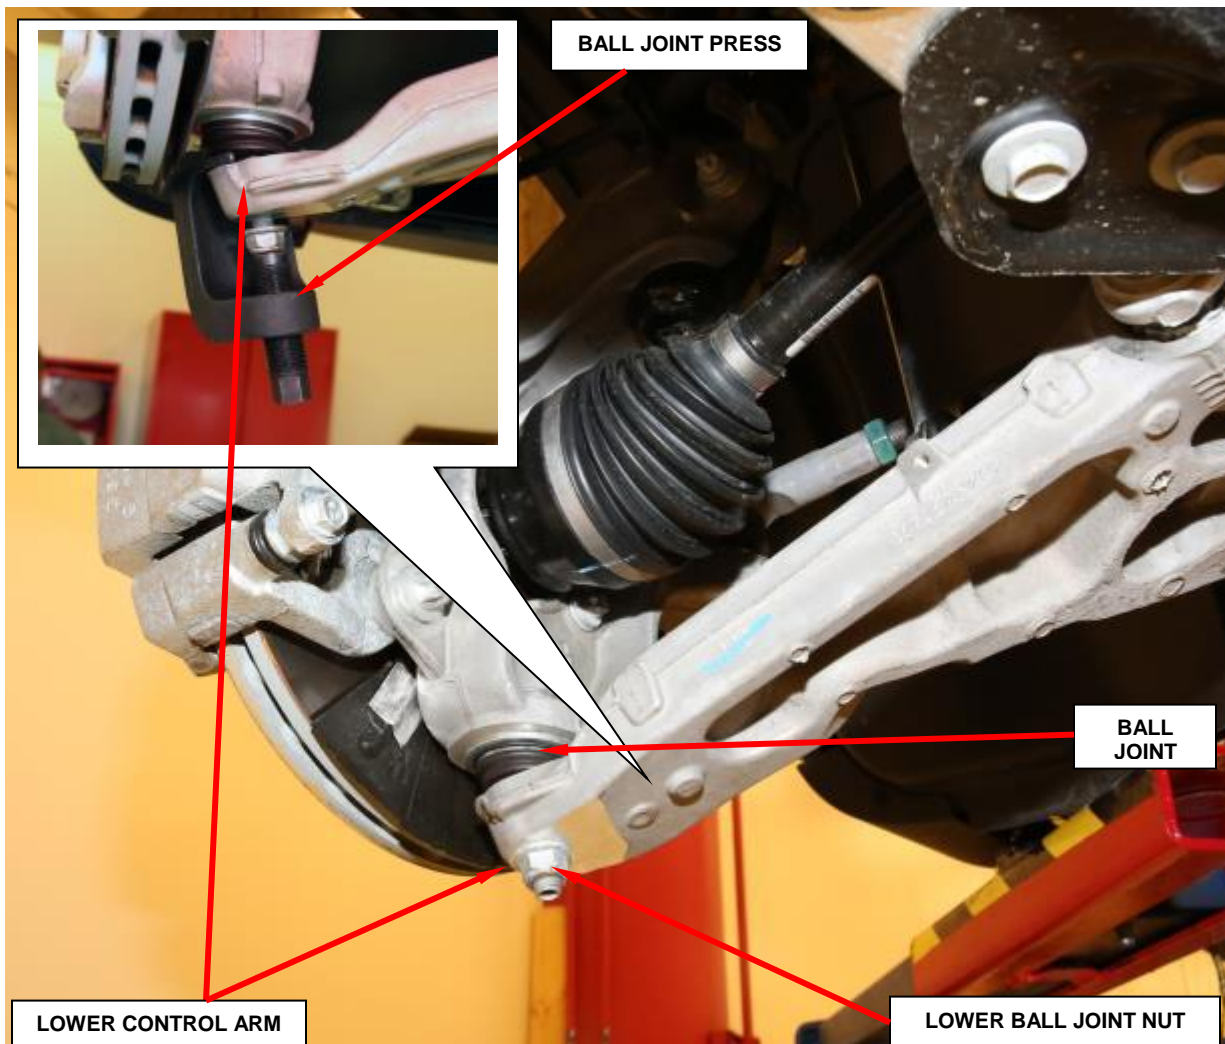

Figure 3 – Lower Ball Joint
6. Remove and **discard** the lower ball joint nut (Figure 3).
7. Using the Ball Joint Press C-4150A separate the ball joint stud from the lower control arm (Figure 3).
17. Install a **NEW** lower ball joint to control arm nut and tighten to 18 ft. lbs. Plus 175° (25 N•m Plus 175°) (Figure 3).